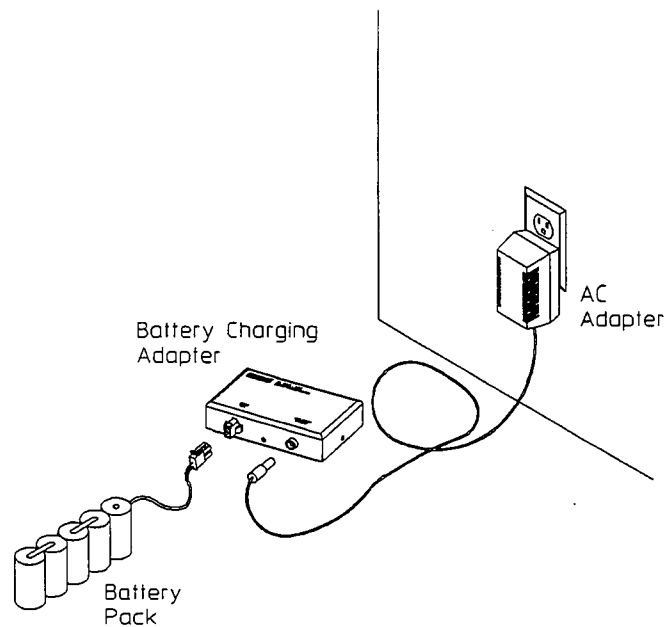

Figure 1-2.
3. Connect the ac adapter cable to the battery charging adapter input, 03560-84405, connect the battery pack to the battery charging adapter output. See figure 1-2.